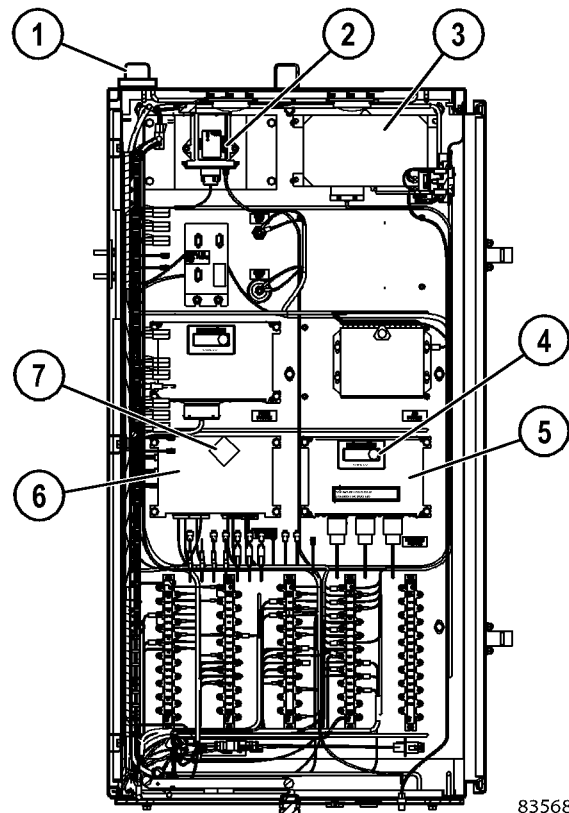
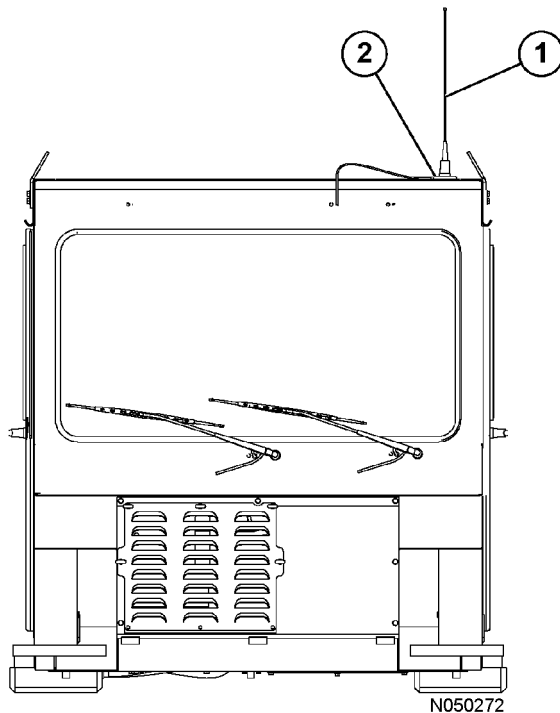

FIGURE 32-11. KOMTRAX PLUS COMPONENT LOCATION
FIGURE 32-12. ORBCOMM ANTENNA
This system uses KOMTRAX Plus controller (formerly known as VHMS) (6, Figure 32-11) to gather data about the operation of the truck from sensors and other controllers installed on the truck. The data stored in KOMTRAX Plus is collected by a laptop personal computer (PC) or transmitted directly by communications satellite (utilizing the ORBCOMM controller). This data is then compiled at the Komatsu computer server. Based on this information, the servicing Komatsu distributor will suggest improvements and provide information aimed at reducing machine repair costs and downtime.
The KOMTRAX Plus system is turned on by the truck key switch. Immediately after receiving 24V power from the key switch, the KOMTRAX Plus controller begins the power-up initialization sequence. This sequence takes about three seconds, during which time red LED digits (7, Figure 32-11) display a circular sequence of flashing LED segments.
ORBCOMM controller (3, Figure 32-11) transmits data through antenna (1, Figure 32-12) mounted on top of the cab. The antenna coaxial cable is routed through the inside of the cab to protect it from damage. If the antenna or coaxial cable is damaged, replace the parts.
Interface module (3, Figure 32-11) receives data from the sensors installed on the truck and sends this information to the KOMTRAX Plus controller. There is a small green LED light on the face of the controller. With the key switch ON, the light must be blinking. If the light is continuously illuminated, there is a problem in the controller.
The Komatsu wireless bridge (2, Figure 32-11) allows for the transfer of information from the KOMTRAX Plus controller to a laptop computer with wireless network capabilities. The information that is downloaded through the KWB (Komatsu wireless bridge) is the same information that is gathered during a manual download from the KOMTRAX Plus system. Downloads can be performed with the laptop computer located on or near a stationary truck, or the computer can be located close to a path of moving trucks. Total download time is approximately 10 seconds. If only a portion of the data is downloaded while the truck is passing by a laptop computer, the remaining information will be downloaded the next time a data download occurs.